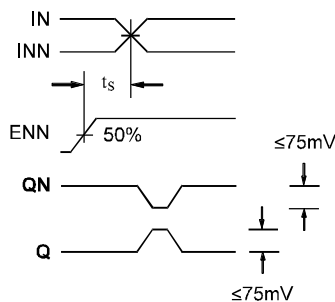

Figure 1. Setup Time
- The setup time is the minimum time that ENN must be asserted prior to the next transition of IN/INN to prevent an output response greater than ± 75 mV to that IN/INN transition (see Figure 1).